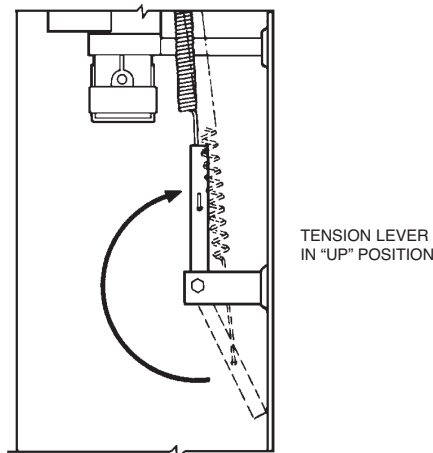

FIGURE 16
- ▶ 23. Raise the tension lever to "UP" position. See Figure 16.